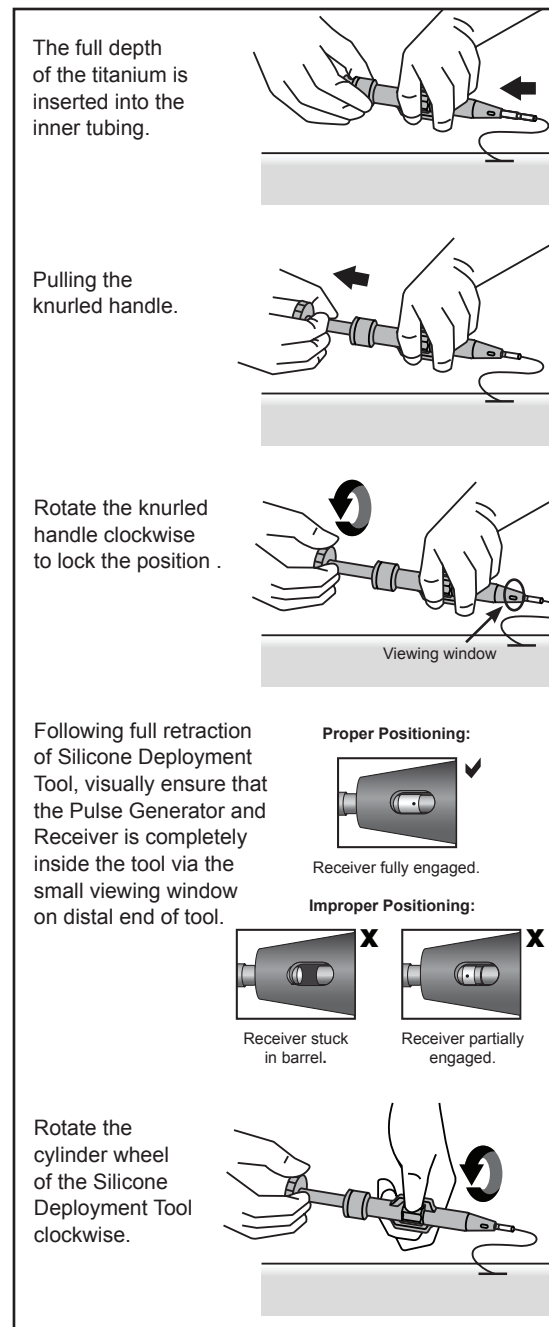

Figure 12: Deploying the Silicone Sleeve.
3. Insert the titanium can of the TalisMann Pulse Generator and Receiver all the way into the inner tubing of the tool. See Figure 12.
4. Retract the tool handle to pull the TalisMann Pulse Generator and Receiver completely inside the tool. Rotate the tool handle 90 degrees to lock the handle. See Figure 12.
5. Visually ensure that the TalisMann Pulse Generator and Receiver is completely inside the tool before proceeding. See Figure 12.
6. Rotate the cylinder wheel of the Silicone Sleeve Deployment Tool clockwise to “push” sleeve off tool over the StimRouter Lead and TalisMann Pulse Generator and Receiver junction. Rotate until sleeve is deployed and rotation resistance is felt. See Figure 12.